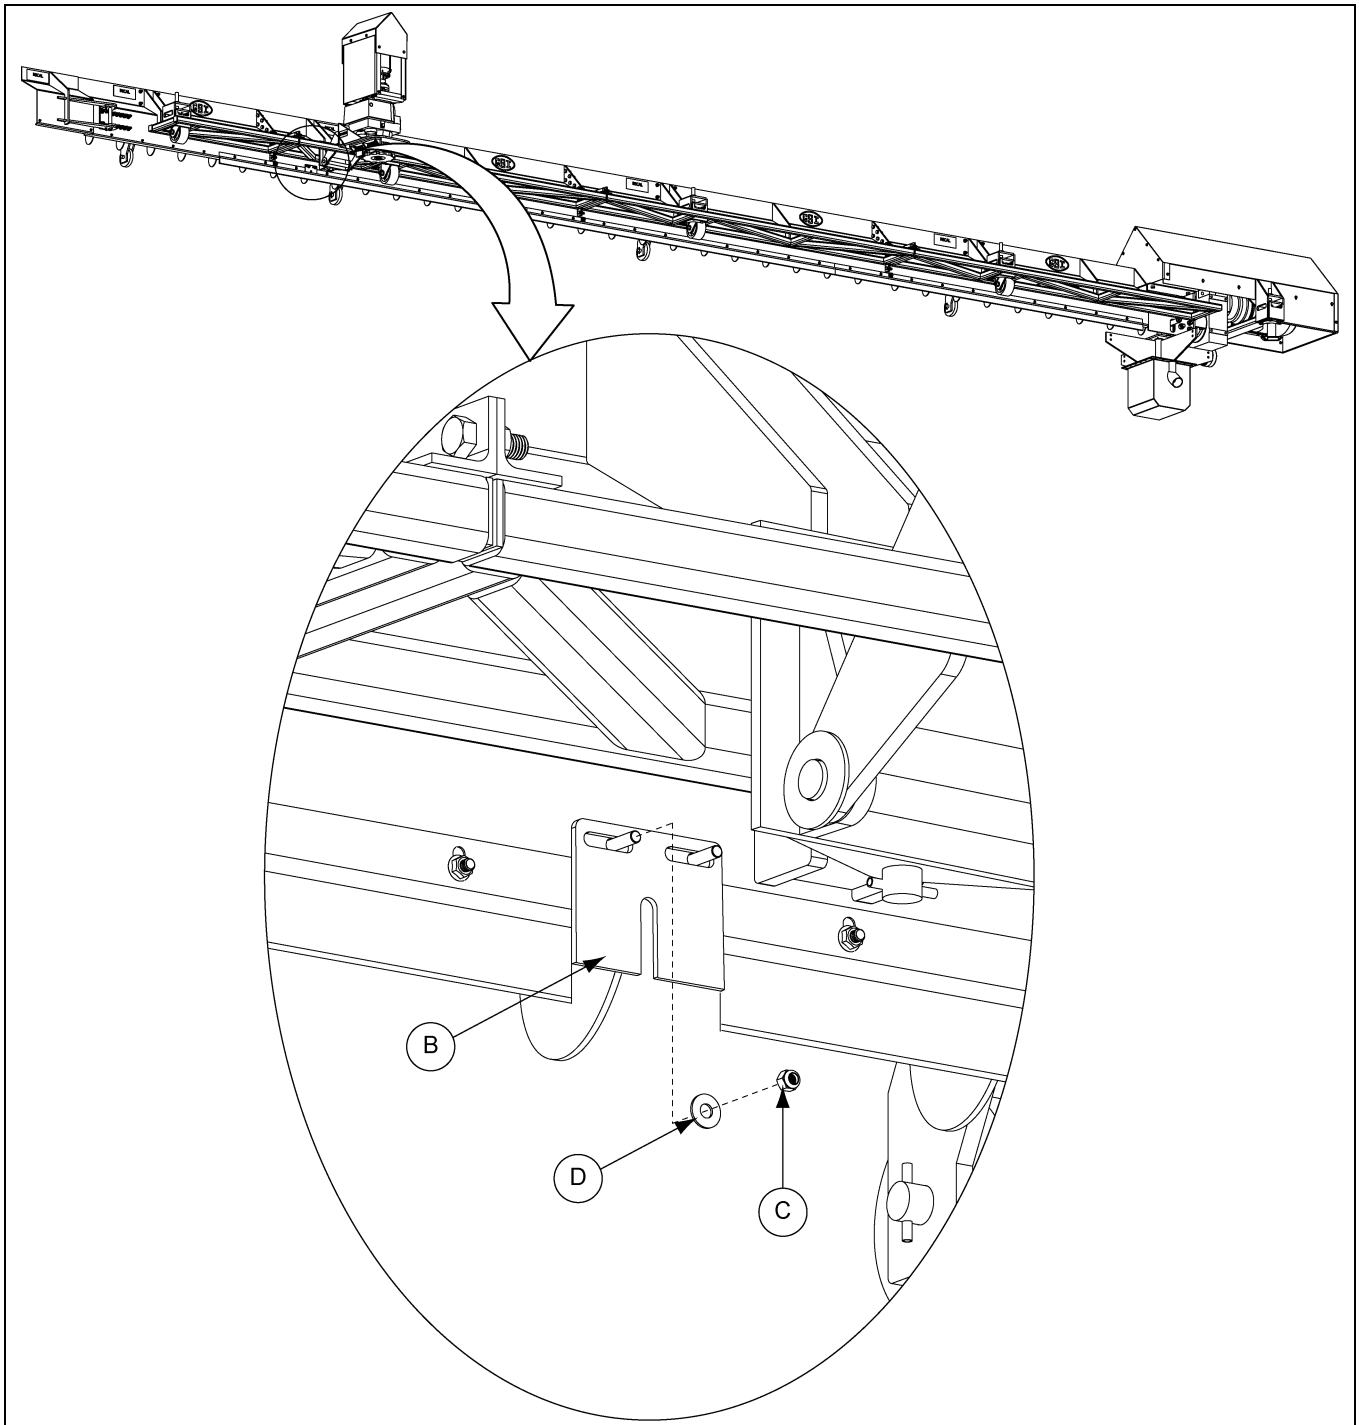

Figure 4Y
2. Install the sweep track wiper (B) to the rear side of the sweep shield and secure with flat washers (D) and lock nuts (C). (See Figure 4Y.)